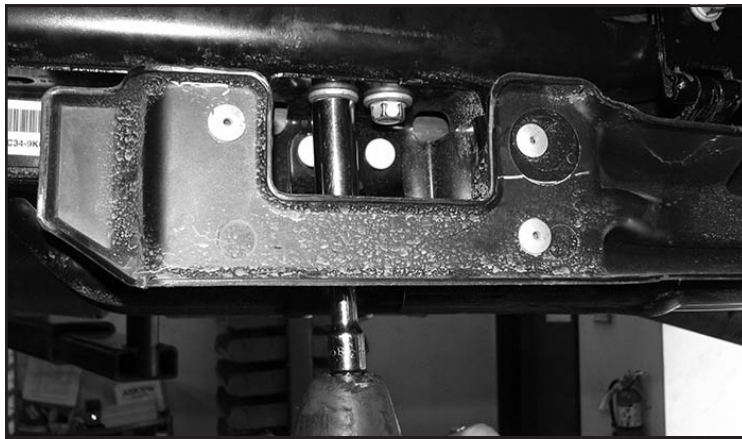

FIGURE 6 - STEP 6
6. On the driver side of the vehicle locate and remove the 2 bolts attaching the fuel tank cover. **SEE FIGURE 6**